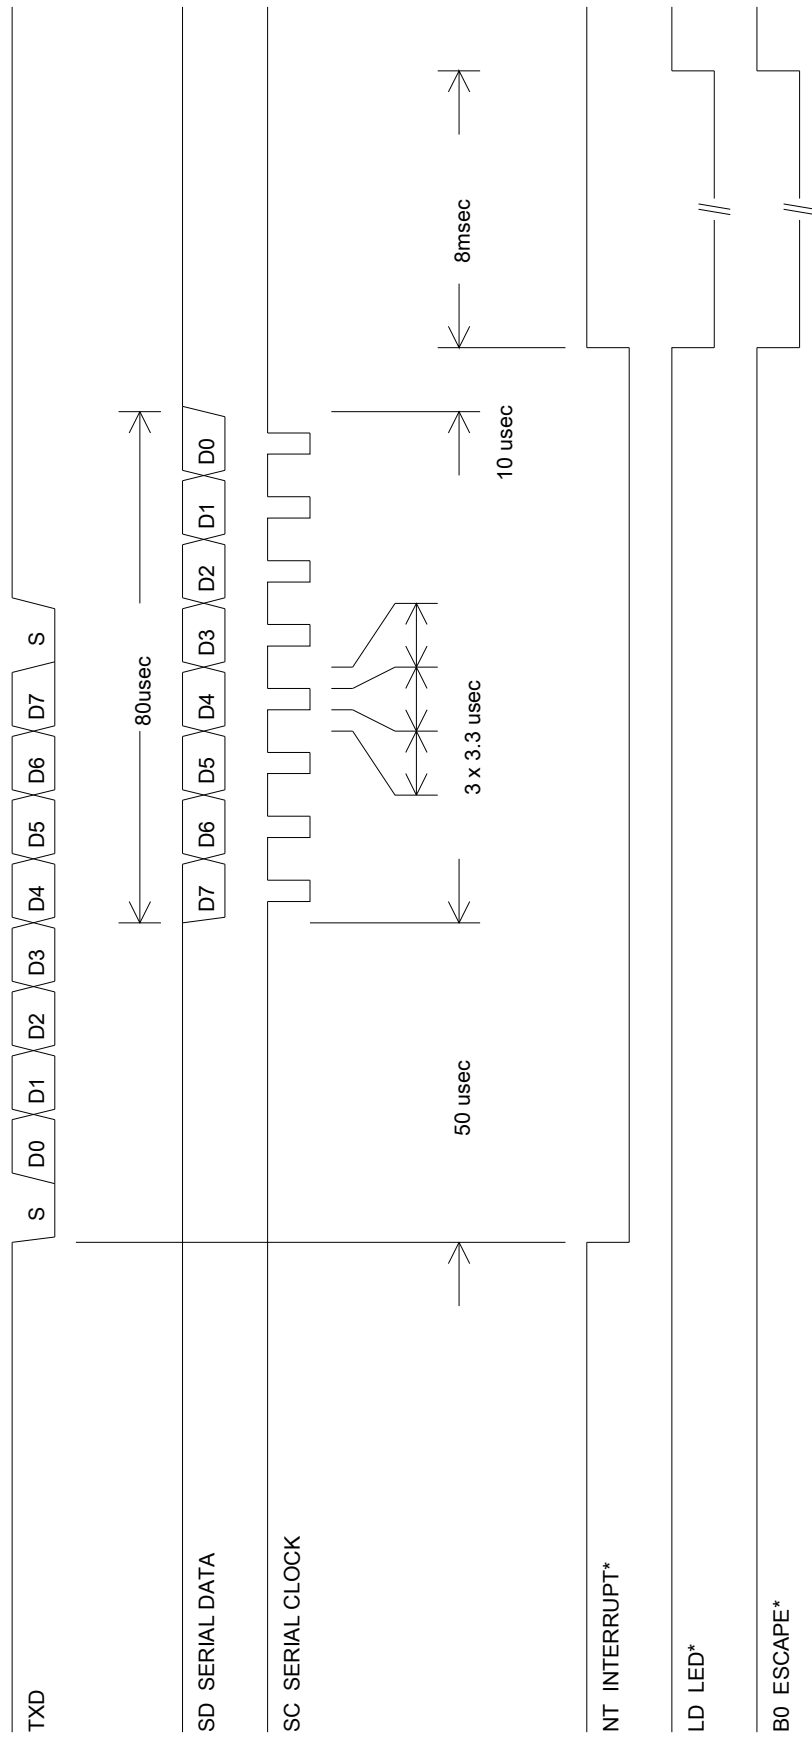

Figure 4. Signal Output Timing
The E1115F provides several outputs following a keyboard key closure. The output timing is shown in Figure 4. The E1115F first sends an ASCII code through the serial port at the selected data rate using one start bit, 8 data bits, no parity, and one stop bit (8N1 format). The interrupt pin (NT) is brought low 50 μ sec prior to the clocked data to allow the host microcontroller time to service the interrupt. The clocked data is sent at approximately 100KHz. The NT pin is held low until 10 μ sec after the end of the clocked data transmission. Once the NT pin is deasserted, the LED line is pulsed low for 8 msec. The keyboard is inhibited until all outputs are completed.